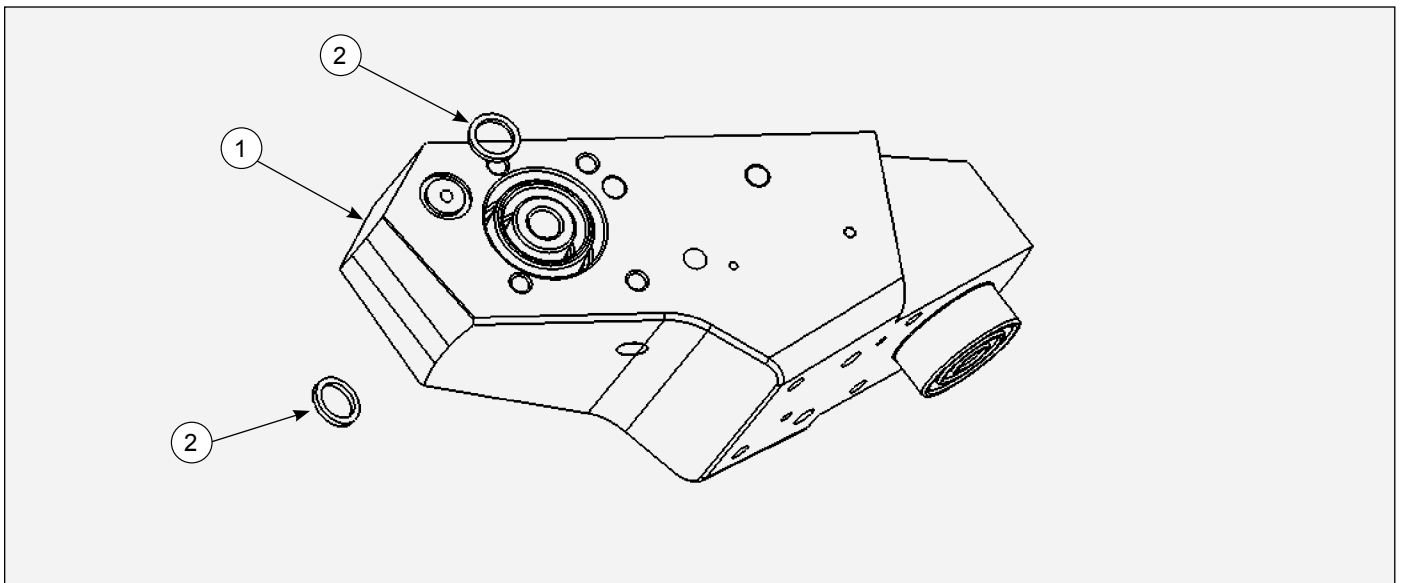

Figure 29: Dual Head 60°
**80425-00 DUAL HEAD 60° - PARTS LIST (Figure 29)**
**80426-00 DUAL HEAD 90° - PARTS LIST (Figure 29)**